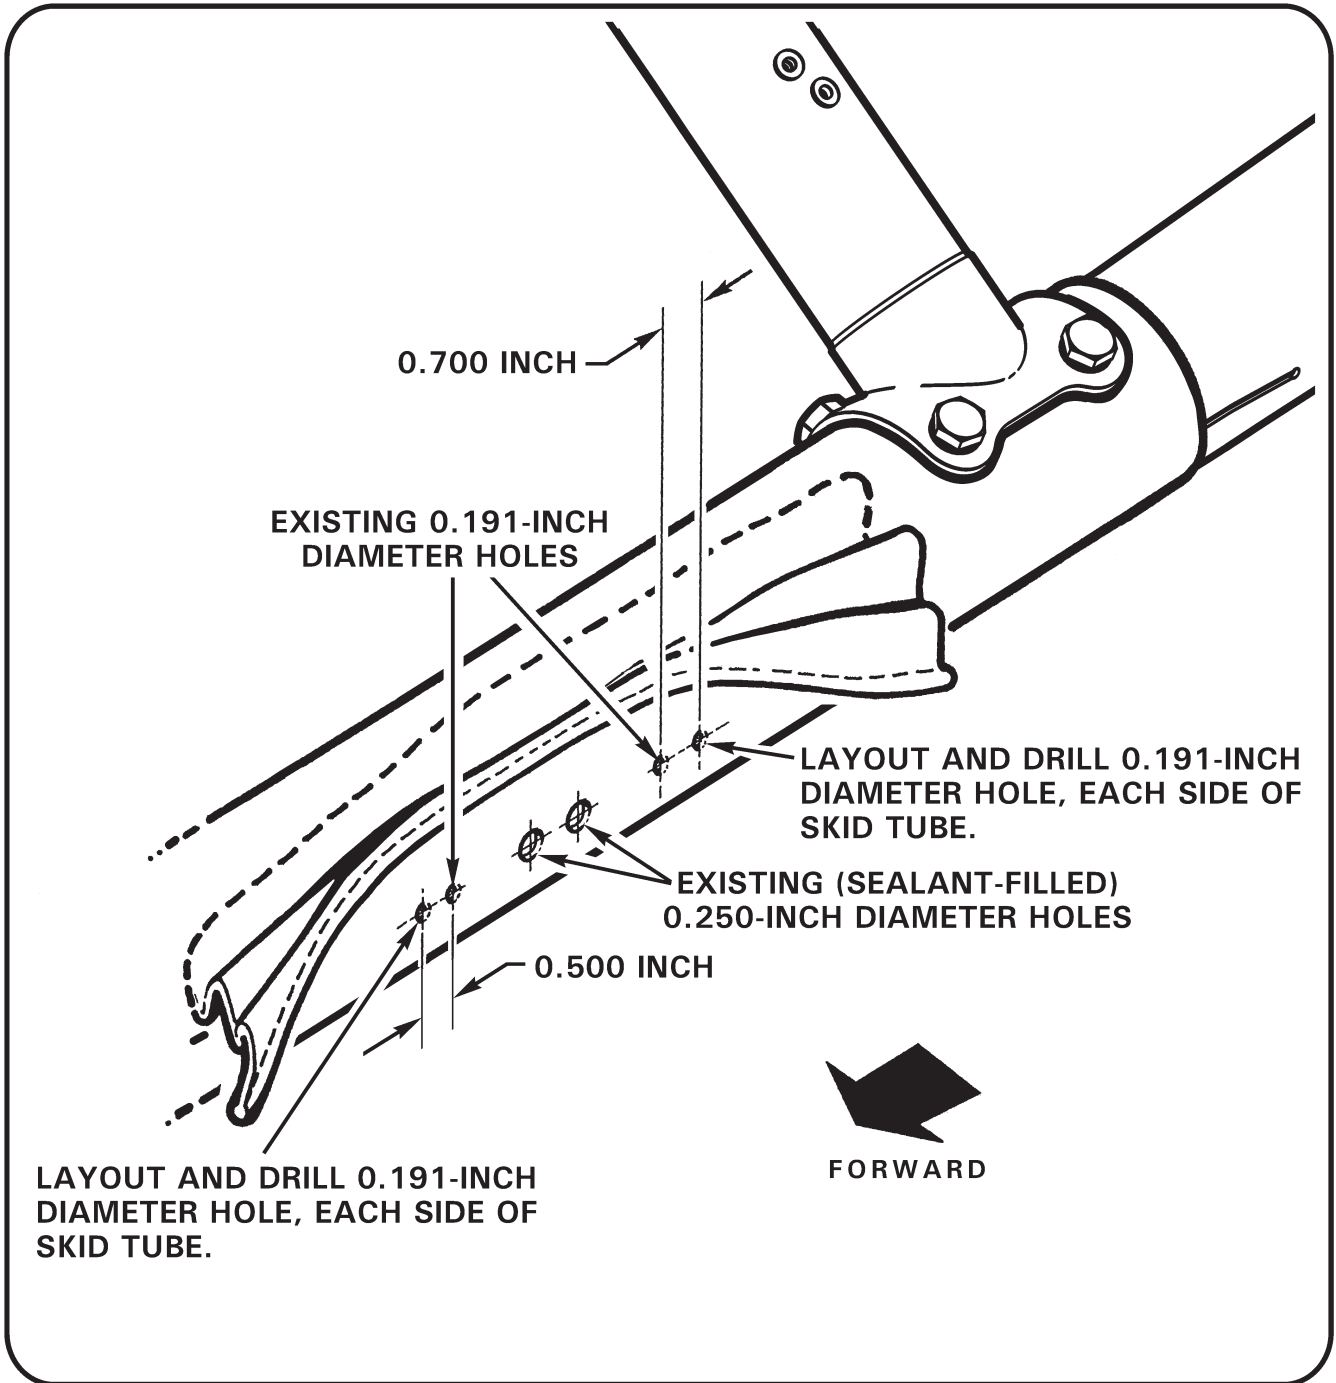

FIGURE 2
3. Refer to Figure 2. Locate two existing 0.191-inch diameter holes and two 0.250-inch diameter (sealant-filled) holes near aft strut. Tape float and float cover away from working area, both sides of skid.
4. Layout and drill (1) 0.191-inch diameter hole at 0.500-inch dimension and (1) 0.191-inch diameter hole at 0.700-inch dimension as shown, through each side of skid tube. (Layout and drill from each side of skid tube to ensure proper hole alignment).